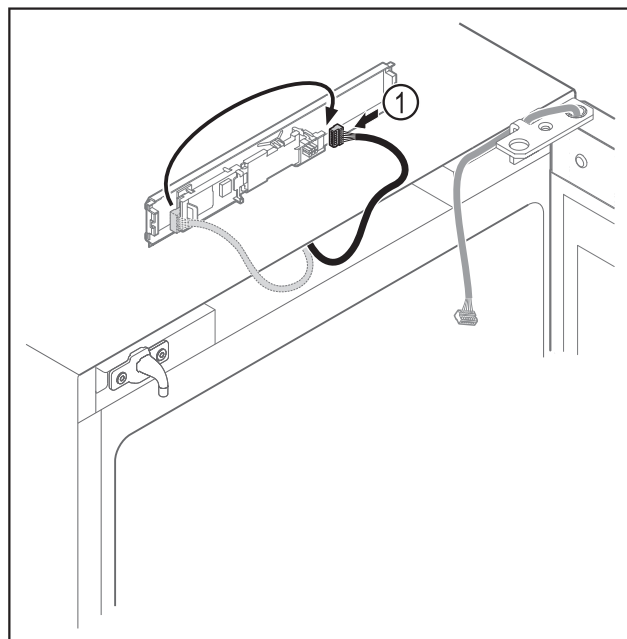

Fig. 5
- Connect the plug Fig. 5 (1) to the circuit board.